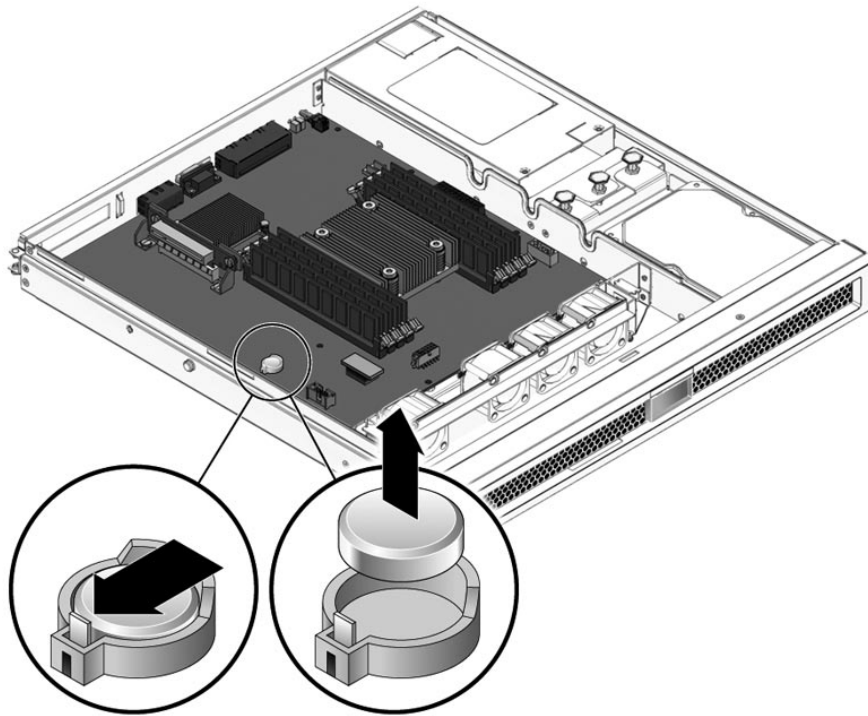

FIGURE 5-15 Removing the Clock Battery From the Motherboard
2. Using a small flathead screwdriver, carefully pry the battery from the motherboard (FIGURE 5-15).